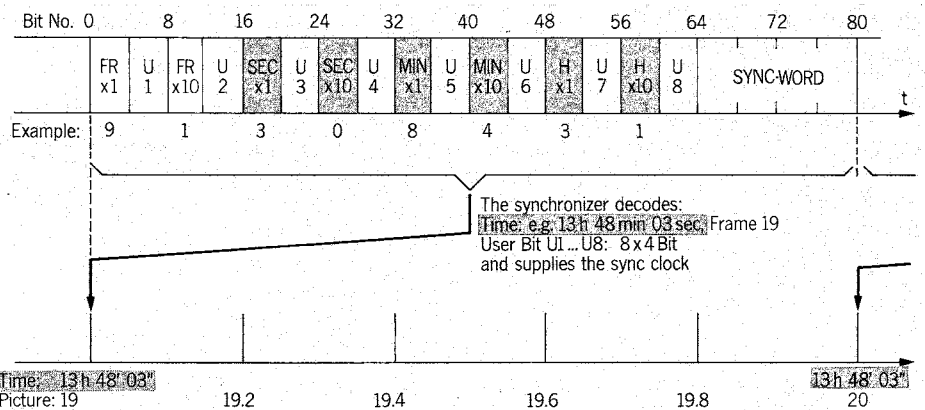

Fig. 4: Evaluation of Time Code.
The SMPTE/EBU time code (TC) serves an "electric wave" for synchronization. Hours, minutes, seconds, and frames are BCD-encoded in serially transmitted 80-bit words. The TLS develops the clock frequency from this information and assigns the corresponding time to each edge (Fig. 4).